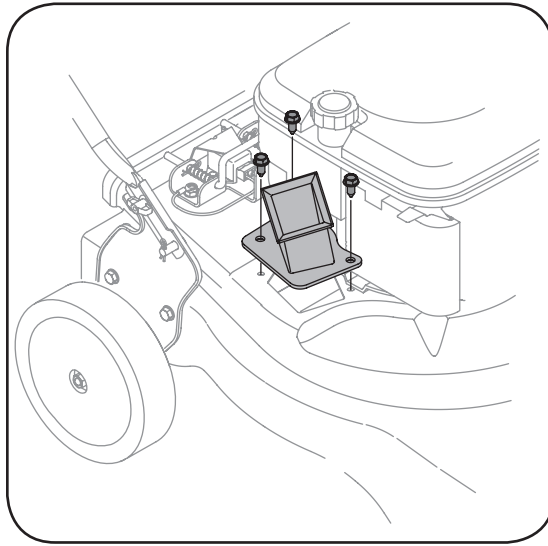

Figure 5-3
3. Remove the three hex cap screws holding the chipper chute to the upper housing. See Figure 5-3.